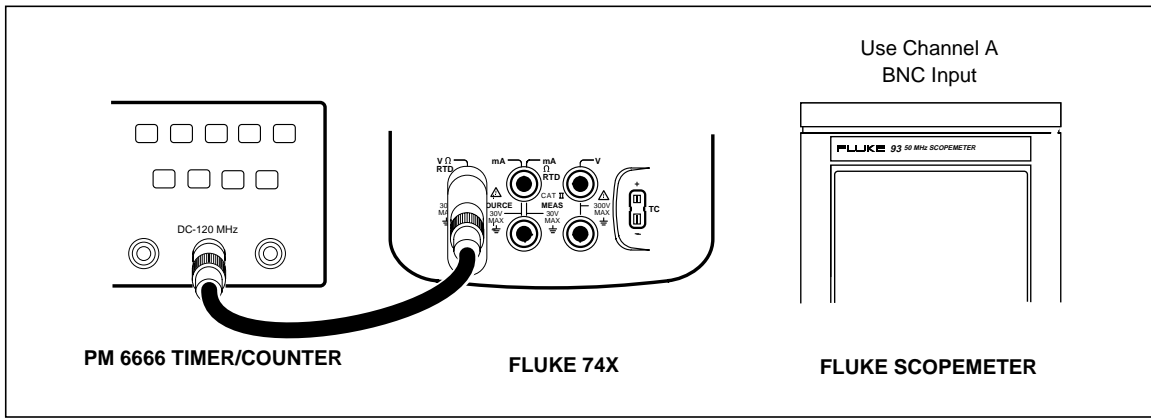

Figure 10. Frequency Source Verification Connections
1. Connect the UUT to the PM6666 counter as shown in Figure 10.